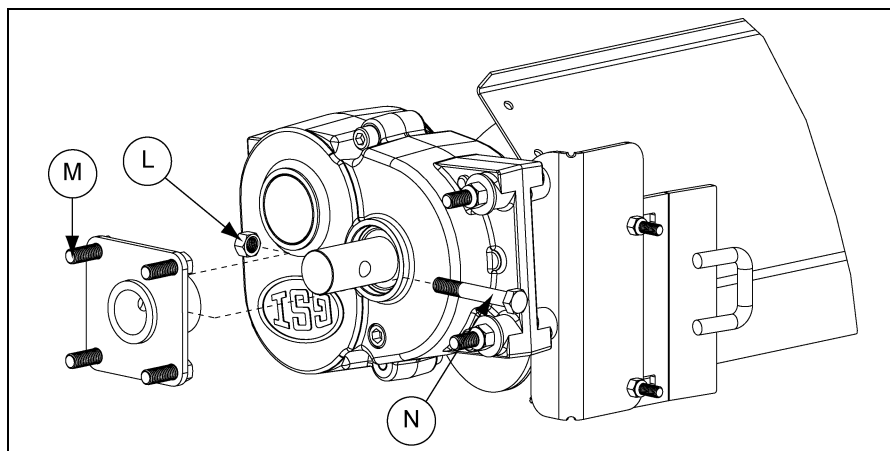

Figure 4AV
4. Attach the sweep wheel hub to the gear driven reduction drive with one 1/2" x 3-1/2" grade 8 bolt (N) and stover nut (L).
5. Bolt the segmented rubber wheel (O) to the sweep wheel hub (M) with four (4) 1/2" nylock nuts.
6. Make final adjustments to the back shields and mounting brackets and tighten all hardware. Remember to leave the pivot bolt at the gearbox loose enough to pivot. (See Figure 4AV.)